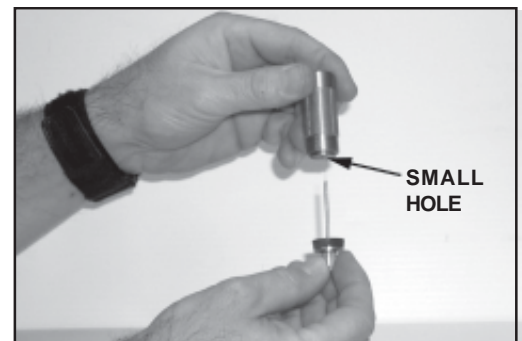

FIGURE 32
- 12- To remove the needle from the piston assembly, carefully insert the needle into the end of the piston assembly tool (USMR-PAT) with the small hole. See figure 32.